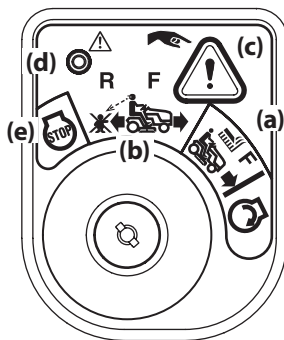

Figure 19
2. Turn the ignition key from the NORMAL MOWING (a) position to the REVERSE CAUTION MODE (b) position of the ignition switch. See Figure 19.
3. Press and hold the REVERSE CAUTION MODE BUTTON (c) at the top, right corner of the ignition module for 3 seconds. The red indicator light (d) at the top, left corner of the ignition module will be ON while activated. See Figure 19.
4. Once activated (indicator light ON), the tractor can be driven in reverse with the PTO (Blade Engage) in the engaged (ON) position.